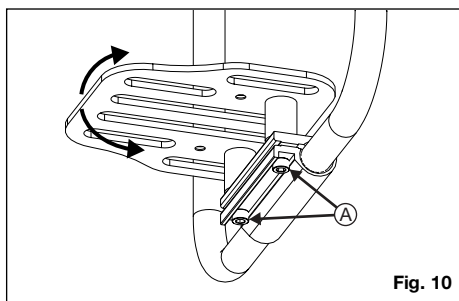

Fig. 10
1. Loosen the two screws (Fig. 10:A) on the bottom of the footrest using a 4 mm Allen wrench.
2. Rotate the footrest to the desired angle and secure it in place by retightening the two screws (Fig. 10:A).